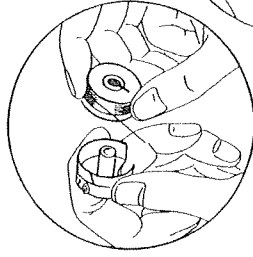

Fig. 5-1
- 2) Holding the bobbin case in your left hand, turn the open side up and place the threaded bobbin into it. (Fig. 5-1)